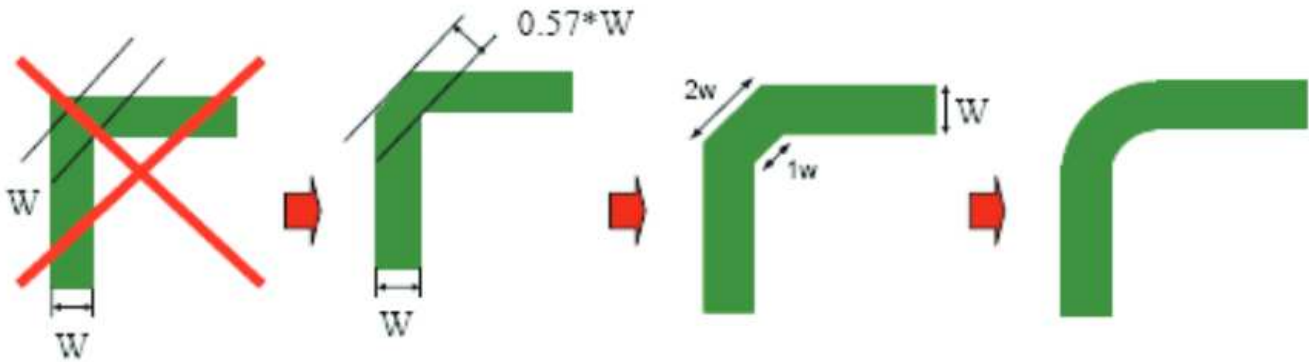

图 20. Poor and Good Right-Angle Bends
- Avoid right-angle bends in a trace and try to route them at least with two 45° corners. To minimize any impedance change, the best routing would be a round bend (see 图 20).